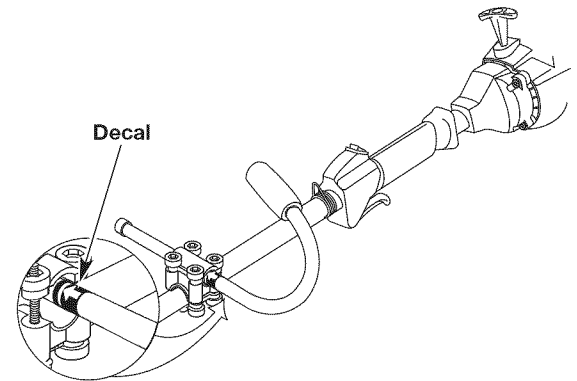

Fig. 2
8. Slide the J-handle in or out until the arrow/white line on the decal touches the clamp assembly (Fig. 2).